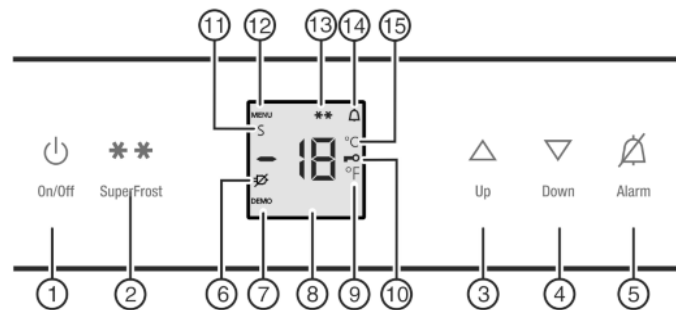

Fig. 2
- ▶ Press the On/Off button Fig. 2 (1).
- ▶ To activate setting mode: Press and hold the SuperFrost button *Fig. 2 (2)* for approx. 5 s.
- ▷ The Menu symbol *Fig. 2 (12)* lights up.
- ▶ Using Up button *Fig. 2 (3)*/ Down button *Fig. 2 (4)* select °.
- ▶ To confirm: Briefly press the SuperFrost button *Fig. 2 (2)*.
- ▶ Using Up button *Fig. 2 (3)*/ Down button *Fig. 2 (4)* select °F or °C.
- ▶ To exit setting mode: Press On/Off button *Fig. 2 (1)*.
- ▶ To activate setting mode: Press and hold the SuperFrost button *Fig. 2 (2)* for approx. 5 seconds.
- ▷ In the display, the Menu Symbol *Fig. 2 (12)* is displayed.
- ▶ Confirm briefly by pressing the SuperFrost button *Fig. 2 (2)*.
- ▷ The Child Safety symbol *Fig. 2 (10)* lights up on the display.
- ▶ Press the On/Off button *Fig. 2 (1)* briefly.
- ▶ Press Alarm button *Fig. 2 (5)*.
At the same time, the Alarm symbol *Fig. 2 (14)* will flash.
The audible warning automatically ceases, the Alarm symbol *Fig. 2 (14)* goes out, and the temperature display stops flashing when the temperature is cold enough again.